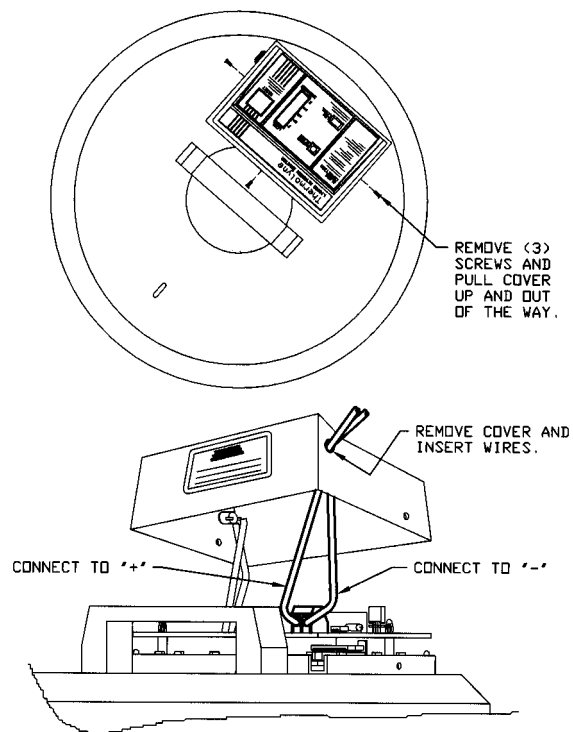

Figure 1
2. Remove the three screws securing the Liquid Nitrogen Level Monitor's cover. Pull the cover up and out of the way. (See Figure 1.)
4. Connect the remote alarm wires as shown in Figures 1, 2 and 3.